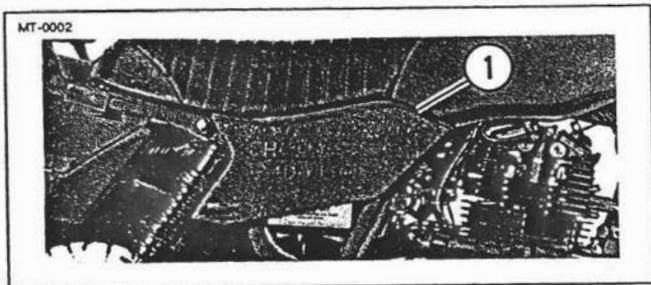

Figure 5-7. Right Side Panel
1. See Figure 5-7. Remove right side panel (1).
6. See Figure 5-7. Install right side panel (1).